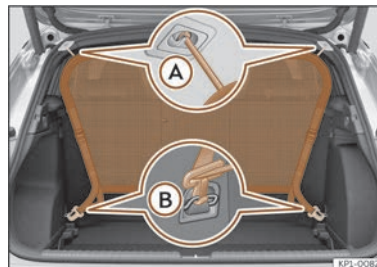

Fig. 188 Net partition fitted.
- Hook the net partition to the left-hand side roof housing >>> **Fig. 188** Ⓐ. Be sure to pull the cross rod down past the upper position.
- Hook in the net partition on the rear right-hand side roof housing by pressing on the bar >>> Fig. 188 (A).
- Secure two hooks of the partition net to the fastening rings of the boot >>> Fig. 188 (B) and tighten the straps firmly.